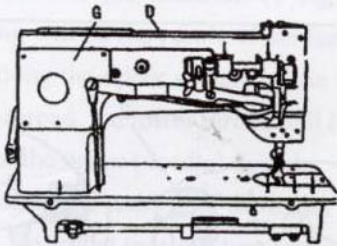
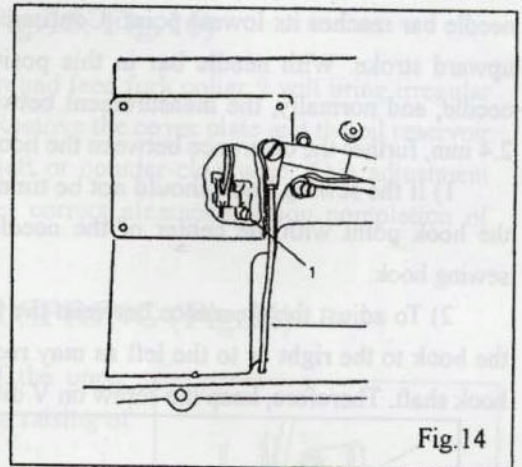

Fig.2
Fig.14
The pressure of the presser feet is adjusted by the screw D (Fig.2) with screwdriver. To increase the pressure, turn the screw to clockwise and to counter-clockwise to decrease it.
- 1) Remove the cover G (Fig.2) and loosen the screw 1 (Fig.14) slightly.